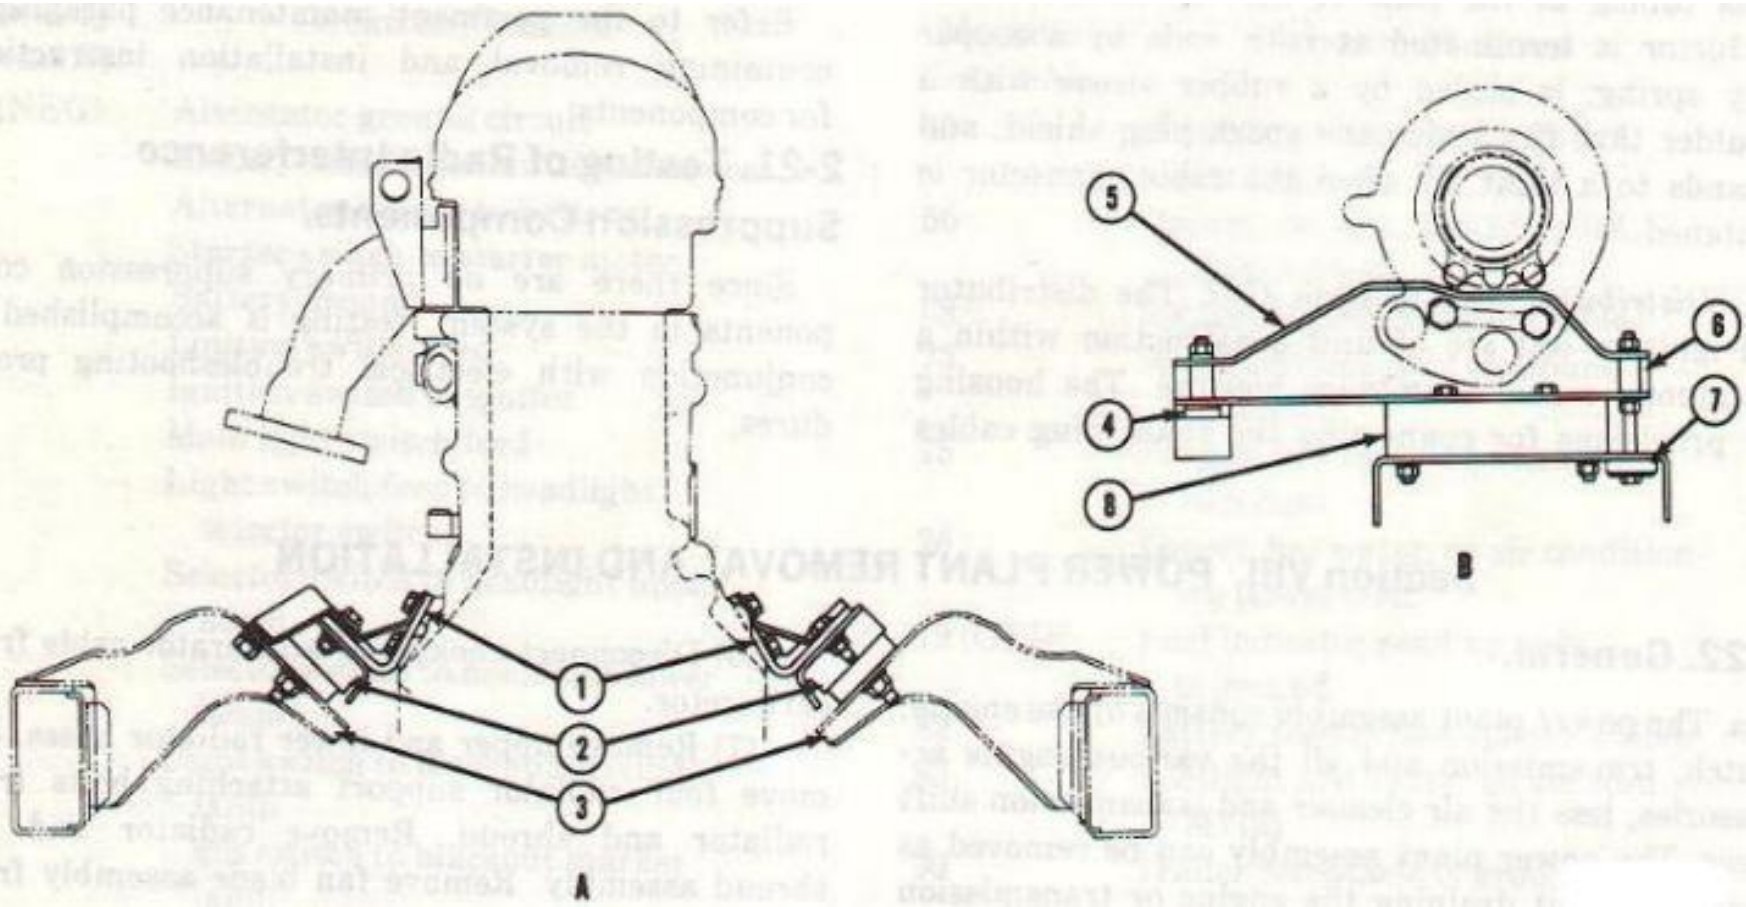

Figure 2-4. Engine supports.
- (11) Disconnect engine ground cables.
- (12) Disconnect cables from carburetor.
- (13) Disconnect exhaust pipe at manifold outlet, also at bracket attaching flywheel housing.
- (14) Disconnect clutch linkage at clutch housing.
- (15) Remove clutch cross shaft. Remove bolts attaching bracket-to-flywheel housing.
- (16) Disconnect power take-off propeller shaft, and propeller shaft from transmission to transfer case. Tie shafts up out of the working area.
- (17) Disconnect transmission vent line from transmission tower cover.
- (18) Disconnect power take-off control from power take-off.
- (19) Loosen transmission shift lever jam nut. Remove shift lever and jam nut. Remove transfer case hand levers and parking brake handle from bracket mounted on the right side of transmission case.
- (20) Attach lifting sling and take up load from engine mounting cushions.
- (21) Remove torque reaction arm insulator (4 fig 2-4) support-to-torque reaction support arm bracket attaching nuts, lock washers and bolts. Remove nuts
- securing rear insulator assembly (8 fig 2-4) to rear crossmember.
- (22) Remove front engine mount attaching nuts,
- (23) Tilt power plant as required and carefully use hoist to remove it from the vehicle.
b. Engine Rear Insulator Assembly. The engine rear insulator assembly (8 fig 2-4) normally is removed during power plant removal, however, it can also be removed separately from the power plant using the following procedure.
- (1) Place a jack or other suitable lifting device under the engine assembly.
- (2) Remove nuts, bolts, and washers attaching rear insulator assembly (8 fig 2-4) to torque reaction support arm (5 fig 2-4). Remove nuts securing rear insulator assembly (8 fig 2-4) to rear crossmember.
- (3) Jack up engine about 1-inch and remove rear insulator assembly.
- c. Engine Front Rubber Insulators. The engine front rubber insulators (2 fig 2-4) normally are removed during power plant removal, however, they can also be removed separately from the power plant using the following procedure.
- (1) Remove nuts and washers from engine front rubber insulator (2 fig 2-4) attaching bolts.
- (2) Remove attaching bolt nuts, washers and bolts from frame side rail brackets (3 fig 2-4).
lock washers and bolts. Raise engine slightly and remove front rubber insulators (2 fig 2-4) and rear insulator assembly (8 fig 2-4).
- (3) Jack up engine about 1-inch and remove front rubber insulators (2 fig 2-4).
- (1) Attach the engine lifting sling and carefully position the power plant in the vehicle.
- (2) Check and tighten the engine rear support crossmember-to-frame side rail attaching bolts.
- (3) Position the front and rear engine rubber insulators (2, 8, fig 2-4) attaching bolts and tighten. Install front bolts, washers and nuts. Tighten nuts.
- (4) Remove lifting sling from engine lifting eyes.
- (5) Install radiator and fan shroud on radiator body support and secure with four bolts and washers.
- (6) Install propeller shaft from transfer case to transmission.
- (7) Install power take-off propeller shaft and connect power take-off controls.